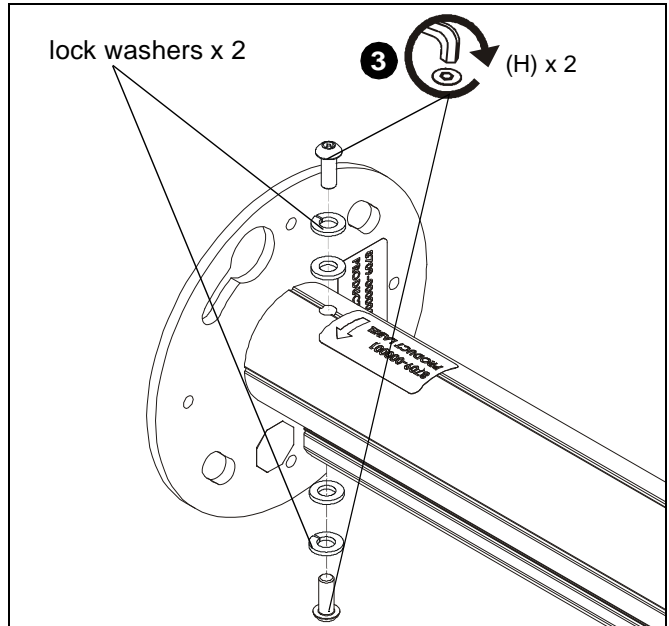

Figure 3
3. Use two M6 x 16mm security screws (H) and washers removed in Step 2 to secure KITEC/KITMC Series mount column to adapter plate. (See Figure 3)
**IMPORTANT ! :** Washers must be reinstalled in the same order with the lock washers being closest to the screw heads. (See Figure 3)